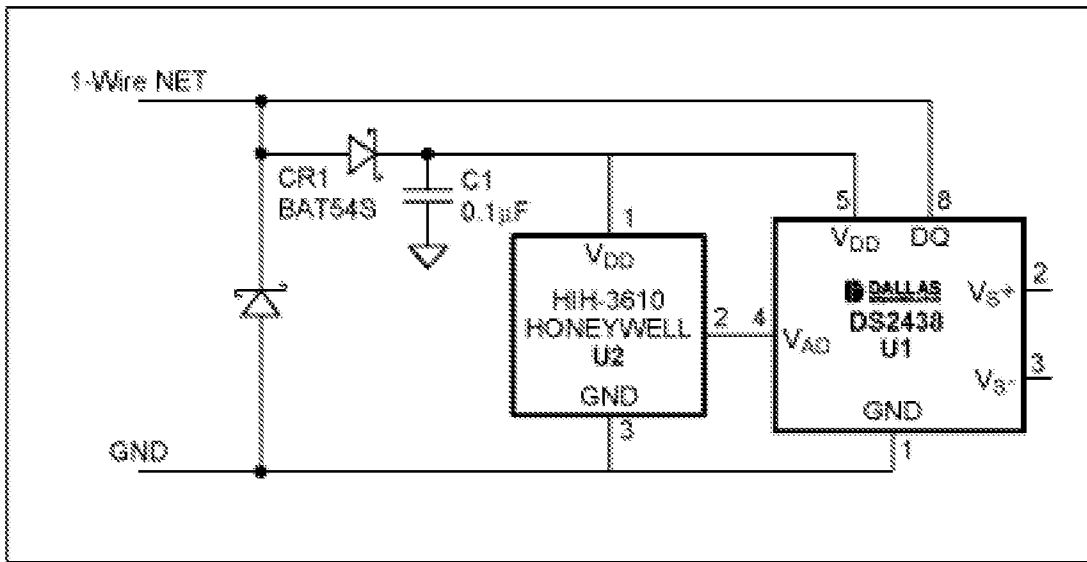

Figure 3. A DS2438 with parasite power is ideal to construct a humidity sensor.
Humidity is an important factor in many manufacturing operations and also affects personal comfort. With the proper sensing element, it can be measured over the 1-Wire net. The sensing element specified here develops a linear voltage versus relative humidity (RH) output that is ratiometric to supply voltage. That is, when the supply voltage varies, the sensor output voltage follows in direct proportion. This requires measuring both the voltage across the sensor element and its output voltage. In addition, calculating true RH requires knowing the temperature at the sensing element. Because it contains all the necessary functions for calculating, the DS2438 with its two ADCs and a temperature sensor makes an ideal choice for constructing a humidity sensor. In Figure 3, the analog output of the HIH-3610 humidity-sensing element is converted to digital by the main ADC input of a DS2438. The bus master first has U1, the DS2438, report the supply voltage level on its V_{DD} pin, which is also the supply-voltage for U2, the sensing element. Next, the master has U1 read the output voltage of U2 and reports local temperature from its on-chip sensor. Finally, the master calculates true RH from the three parameters supplied by U1.